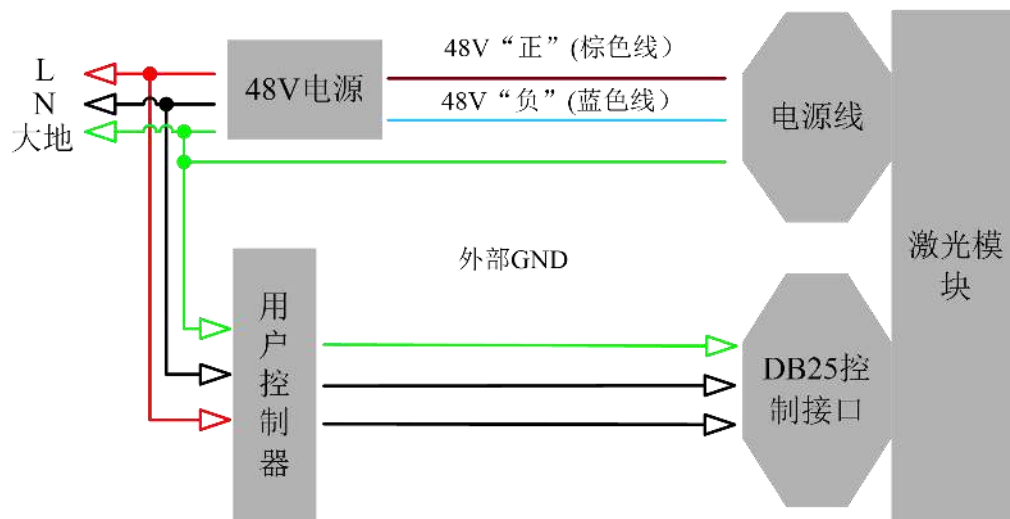

Figure 4 Wiring diagram of recommended electrical connection and power supply
4. Make sure that the interface of the external controller matches the laser, and the control cable is well connected to the laser's interface. The recommended electrical connection is shown in Figure 4.